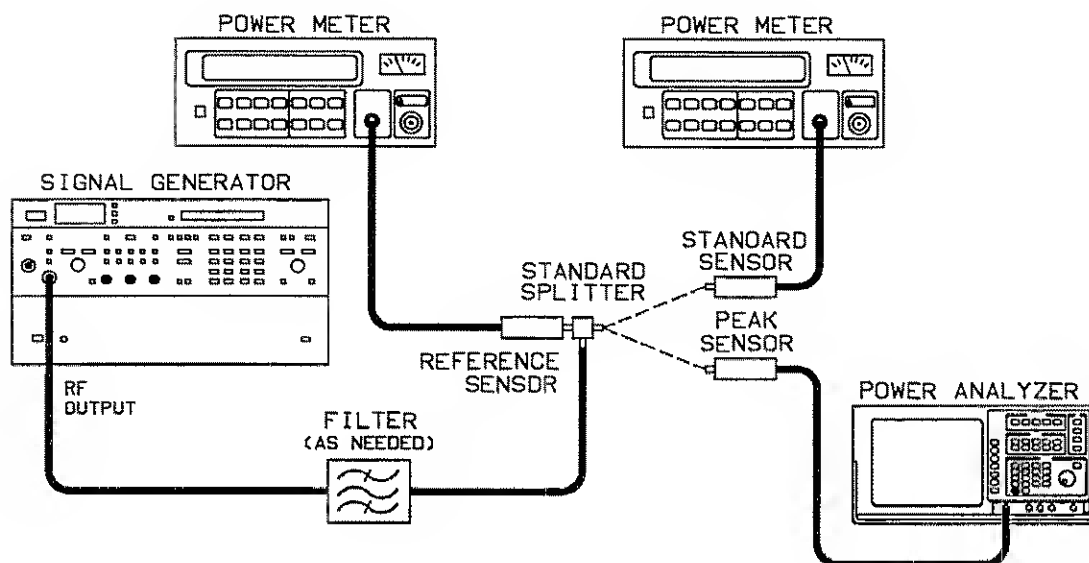

Figure 6-3. Power Level Measurement Setup
1. Set up your system as shown in Figure 6-3. Connect the standard sensor (standards lab calibrated average power sensor) to the calibrated port of the splitter. The calibrated port is identified on the calibration report from the calibration lab.
7. Replace the standard power sensor and meter with the peak power sensor to be calibrated and HP 899X peak power analyzer. Refer to Figure 6-3.